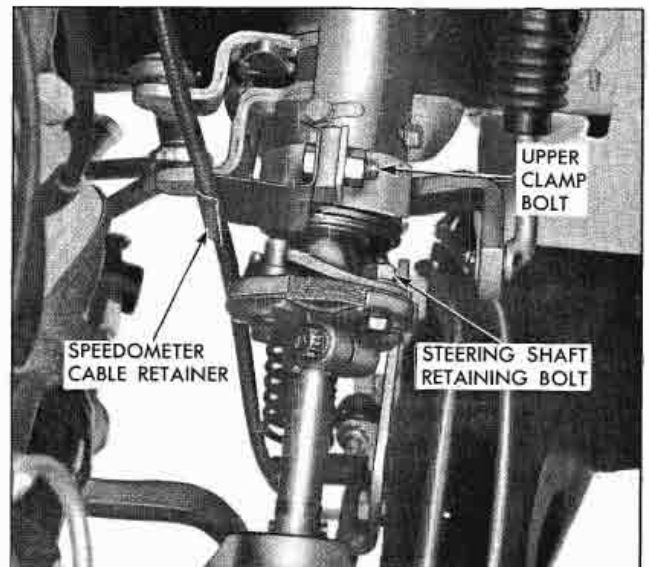

Fig. 7-13 Steering Shaft to Steering Gear Retaining Bolts
5. Remove two steering shaft to steering gear retaining bolts (Fig. 7-13).